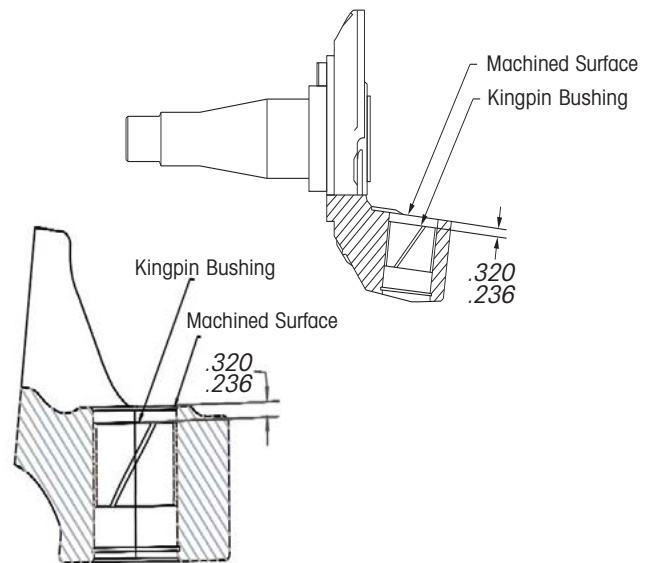

Figure 34.
3. Install the kingpin bushing from the machined side (axle side) of the backbone using a bushing driver. Press in bushing to a depth of no less than  $15/64"$  (.236") or 6 millimeters and no more than  $5/16"$  (.32") or 8 millimeters. (See Figures 34 and 35)